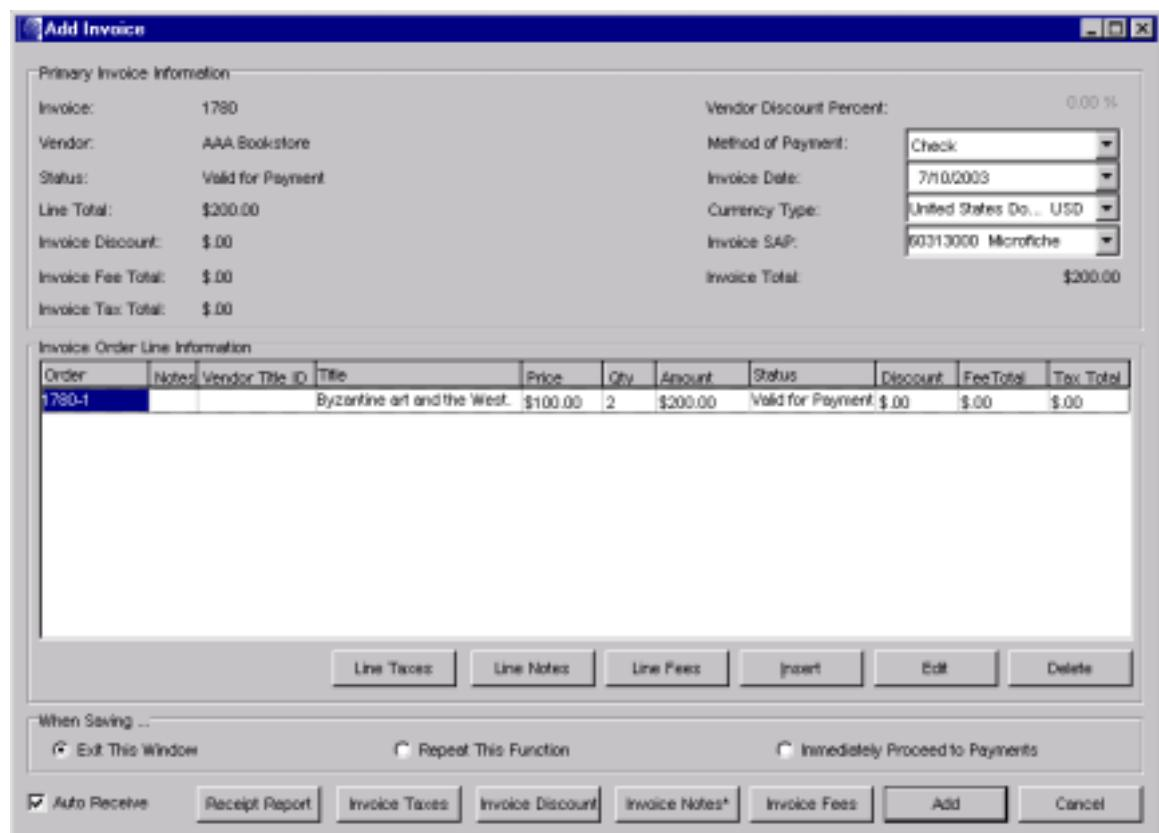

Figure 7-18. Add Invoice Window - Taxes Buttons
- On the Add Invoice window (*Figure 7-18*), click the Invoice Taxes button.